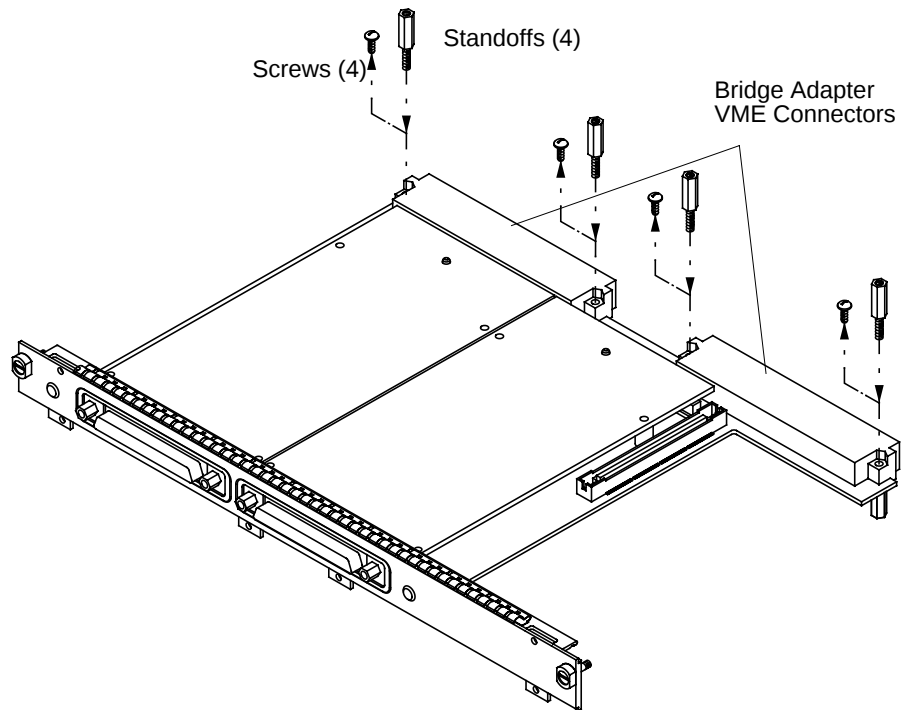

Figure 2-8 **Removing Bridge Adapter Screws and EMI Gasket**
- 8 **Remove** the four screws from bridge adapter VME connectors, and replace them with the four standoffs included in the expansion adapter kit. See Figure 2-8.